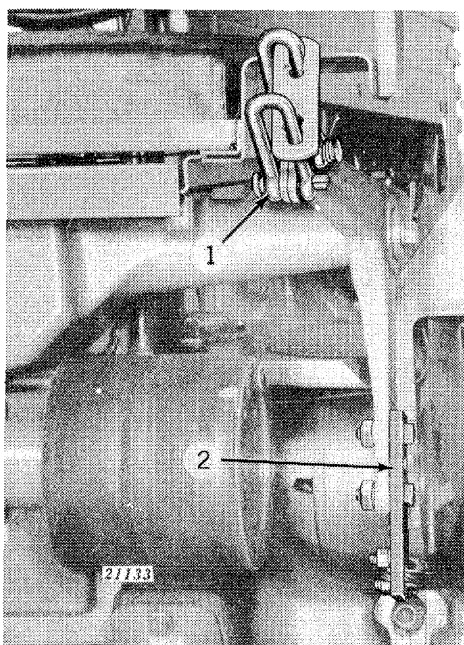

Figure 10—"MT" and "40" Tractors
1. ("MT" Tractor ONLY) Remove drawbar lift chains and lock drawbar in lower set of holes (See Figure 10). ("40" Tractor) Do not remove lift links.
2. Attach lift arm extensions to the right side of the two outside Touch-o-matic lift arms (see Figure 10).